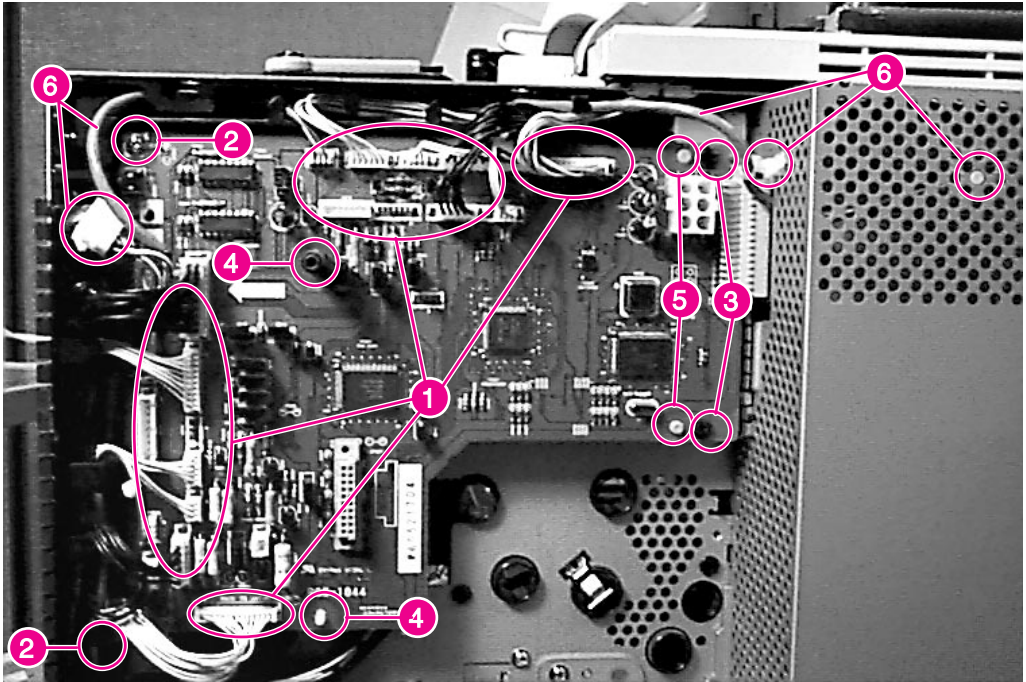

Figure 6-33 DC Controller PCA
- 4 Unplug 18 connectors from the PCA (figure 6-33, callout 1).
- 5 Remove 2 screws (figure 6-33, callout 2) from the left side of the PCA and 2 self-tapping screws (figure 6-33, callout 3) from the right side of the PCA.
- 6 Release two retaining clips (figure 6-33, callout 4) and carefully tip the left side of the PCA outward to clear the Formatter PCA connector from the card cage.
Make sure the retaining clip posts (figure 6-33, callout 4) and the two locator pins (figure 6-33, callout 5) are properly aligned.
- DC Controller PCA (see figure 6-33)